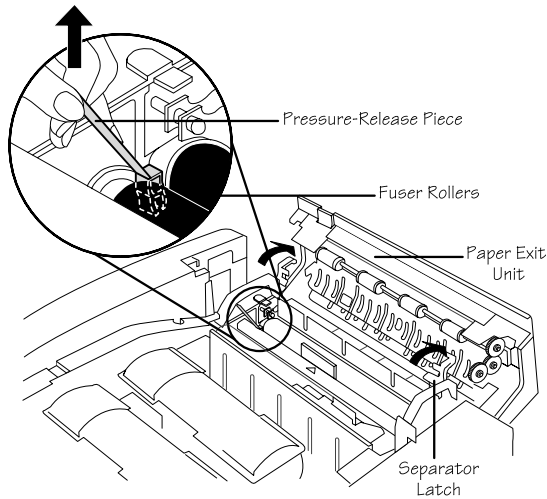

Fig. 2.16 Remove Both Pieces (front view)
4. Grasp the tab end of one of the green pressure-release pieces and gently pull it up and out of the printer (fig. 2.16). Remove the piece at the other end of the fuser roller in the same manner.